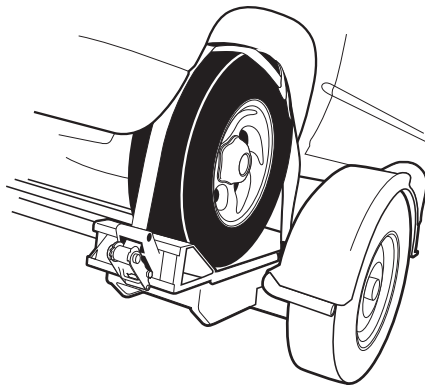

Figure 11
11. Route the tire strap behind the tube and through the slot in the ratchet spool. Pull about 6 inches of the tire strap through the ratchet spool. Keeping the strap evenly over the tire, operate the ratchet until the strap is tight. (Figure 11) Your vehicle-in-tow **tires are too big** if 6 inches of the tire strap will not pull through the ratchet spool. **If the tires are too big**, you may use customer supplied alternative tie down straps. Special instructions are offered on [uhaul.com/td-straps](https://www.uhaul.com/td-straps) for securing the vehicle-in-tow when the tire straps are not used, or ask a U-Haul representative for these instructions, or follow instructions provided with the alternative tie down straps. **DO NOT** tow without vehicle-in-tow tire straps or alternative straps installed.